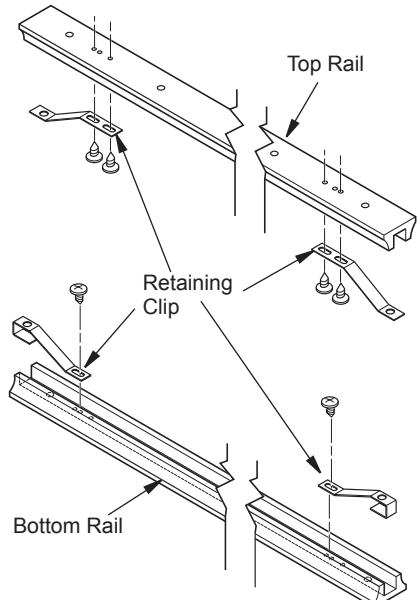

Figure 30 - Mounting Door Retaining Clips
6. Secure retaining clips to top and bottom rails (see Figure 30).